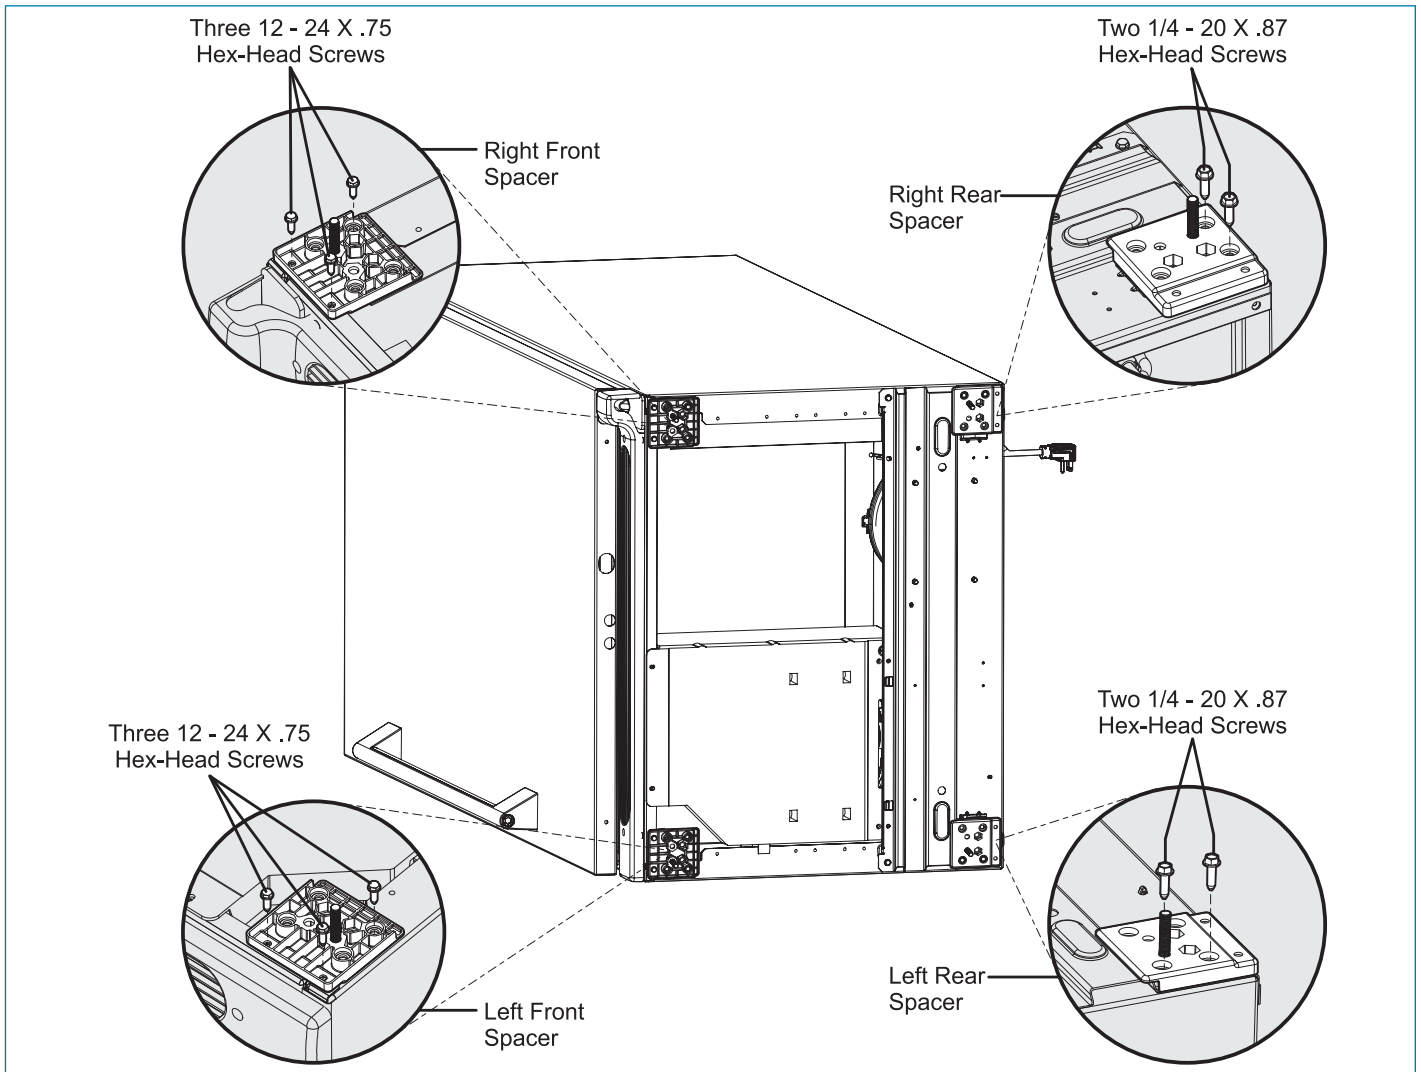

Figure 2-22.
5. Using three HWD #12-24 X .70 screws, fasten the right front Riser Kit Spacer & Hex Bolt Assembly as shown in Figure 2-22.
6. Using three HWD #12-24 X .70 screws, fasten the left front Riser Kit Spacer & Hex Bolt Assembly as shown in Figure 2-22.
7. Using two HWD 1/4 -20 x .87 screws, fasten the right rear Riser Kit Spacer & Hex Bolt Assembly as shown in Figure 2-22.
8. Using two HWD 1/4 -20 x .87 screws, fasten the left rear Riser Kit Spacer & Hex Bolt Assembly as shown in Figure 2-22.